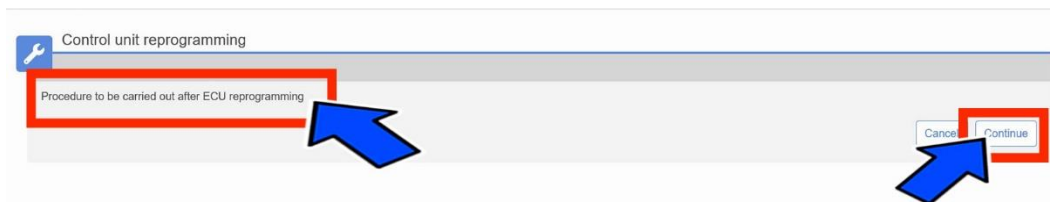

Figure 39 - Procedure to be Carried Out After ECU Reprogramming
- Select “Procedure to be carried out after ECU reprogramming” and then click “Continue” (Figure 39).